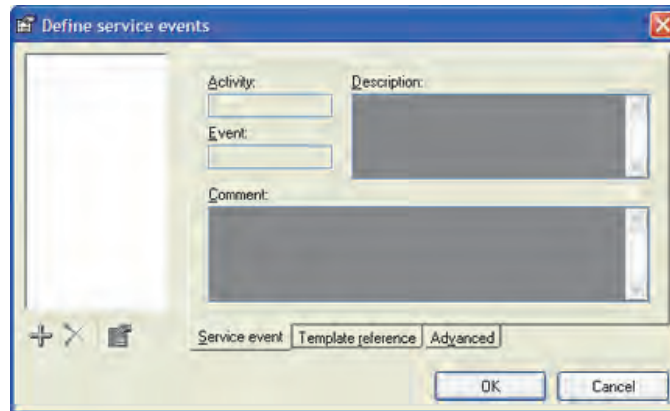

Figure 3-62. Service Events Window
- Define a service event by clicking on **Edit | Service events** to display the service events window shown in Figure 3-62.